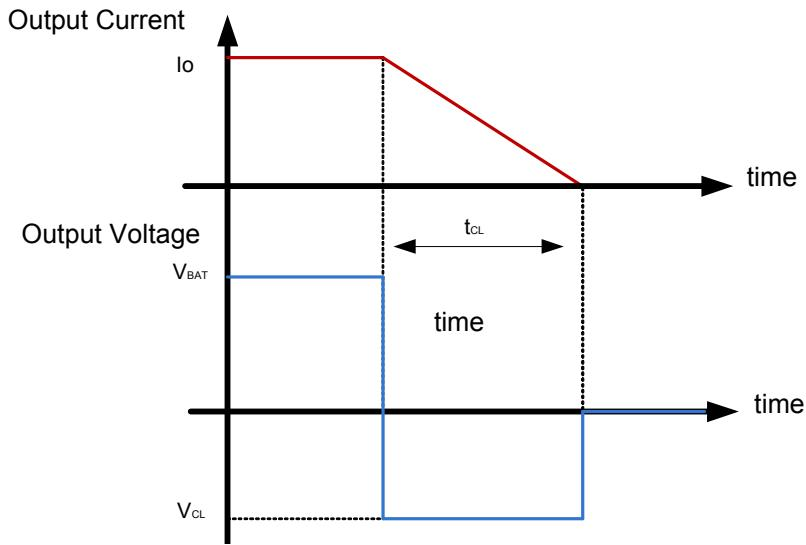

Figure 20. Simplified negative output clamp waveform
In case of an inductive load (L), the energy is dissipated after the turn-off inside the N-channel MOSFET. When $t_{CL} (= Io \times L/V_{CL}) > 1.0$ ms, the turn-off waveform can be simplified with a rectangle, as shown in Figure 20.